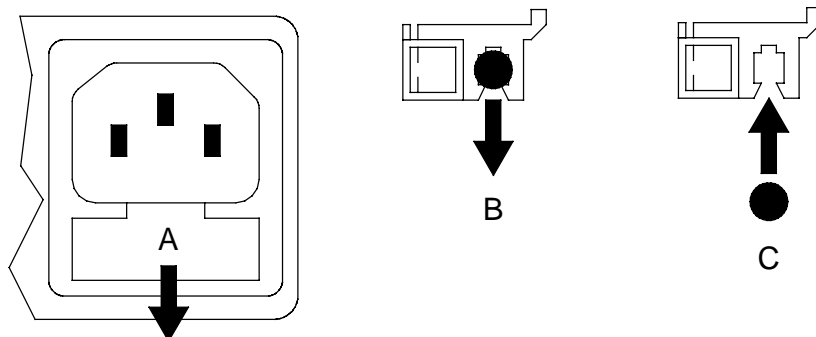

Figure 7 – Changing the Mains Fuse
Referring to Figure 7, remove the power cable, use a small flat bladed screwdriver to pry up the tab on the fuse carrier (A) and pull it out. Push the blown fuse out of the clip in the carrier (B) and dispose of it. Fit a new fuse in the clip (C) and push the carrier back into the unit so that it clicks home.